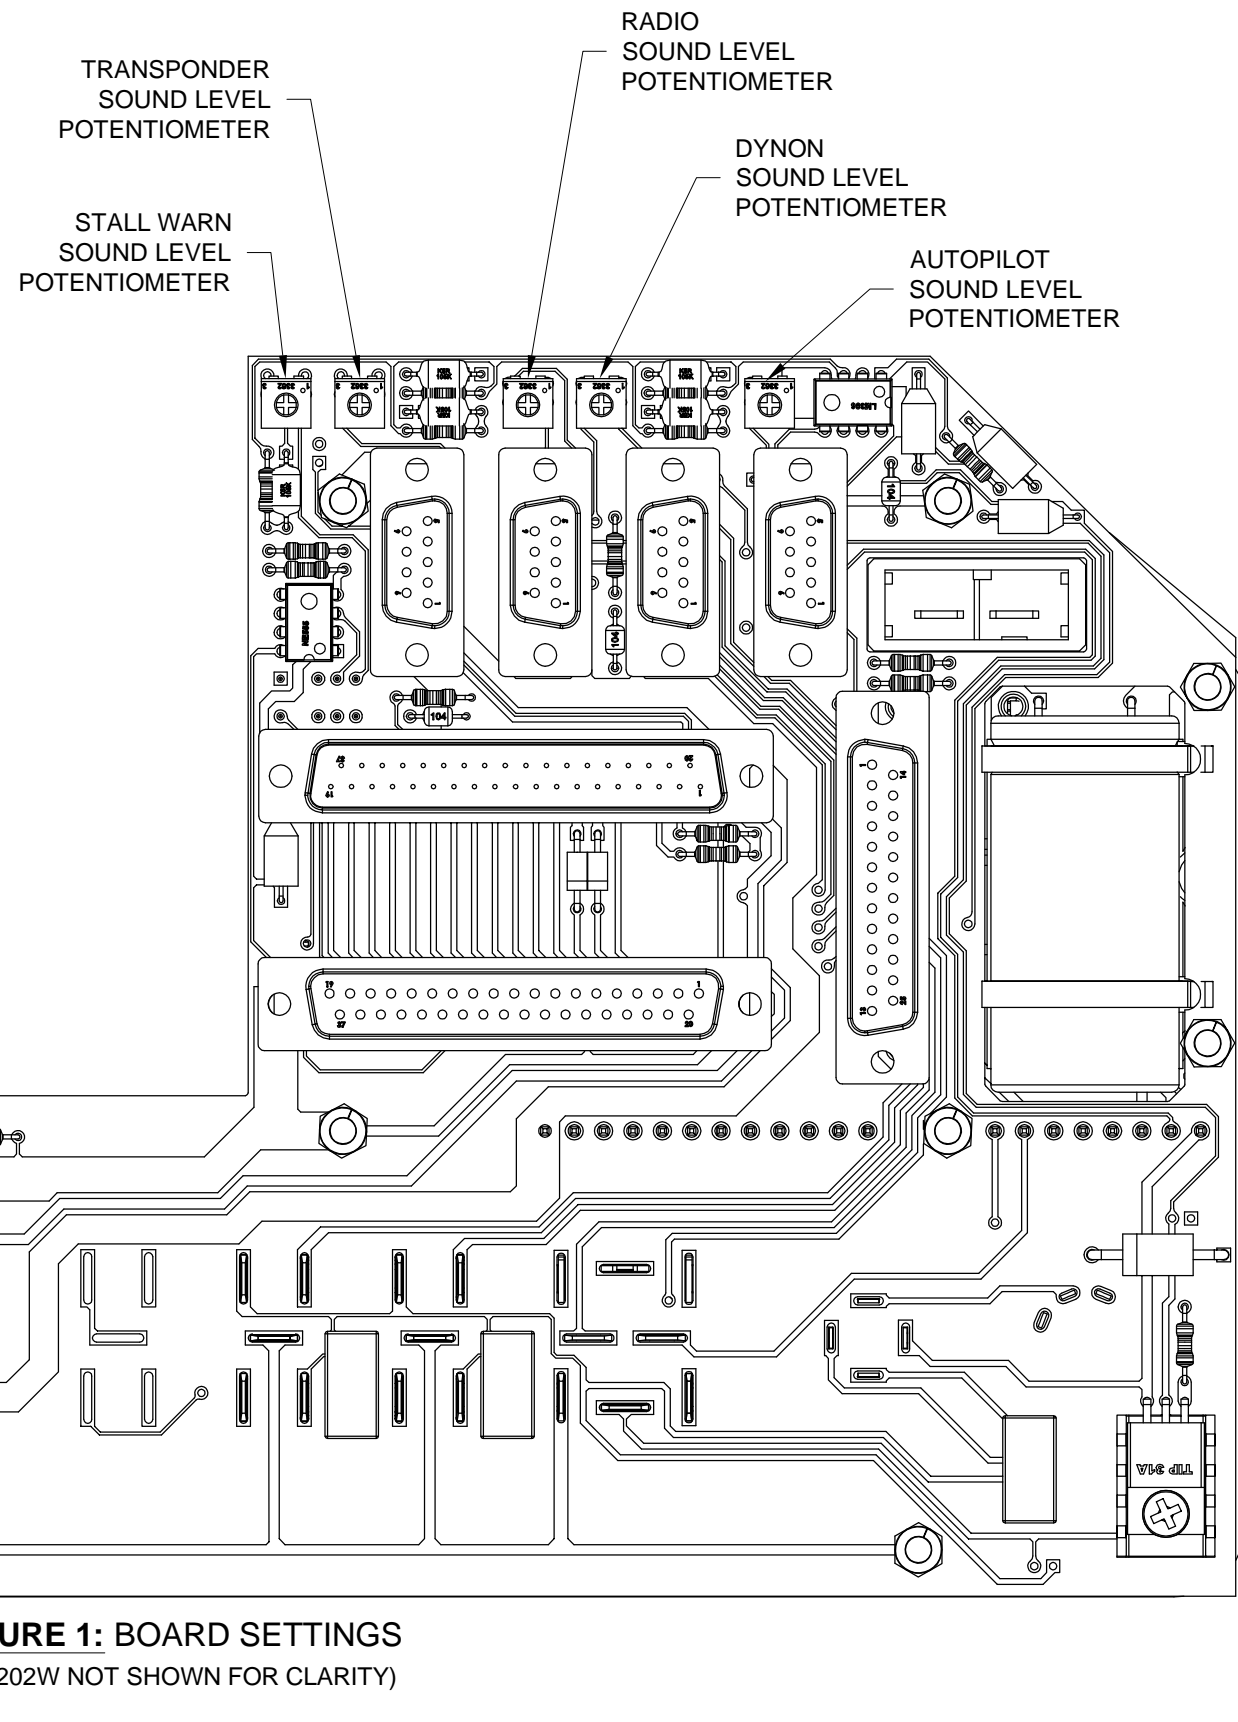

FIGURE 1: BOARD SETTINGS
Step 2: The trim rate is adjusted by turning the trim rate adjust potentiometer along the lower edge of the board. See Figure 1. Set the trim rate at 25 to 30 seconds with the main bus voltage at 12V.